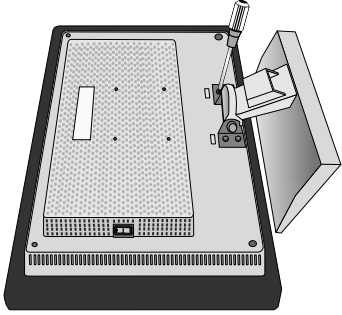

Figure R.2
4. Remove the 4 screws connecting the monitor to the stand and lift off the stand assembly (**Figure R.2**) the monitor is now ready for mounting in an alternate manner.